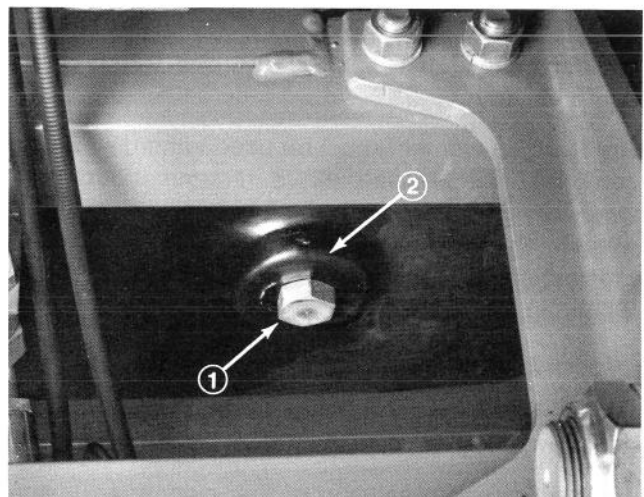

Figure 48
2. Locate plugs at right rear behind front wheel, at rear center and front center of reservoir (Fig. 48).